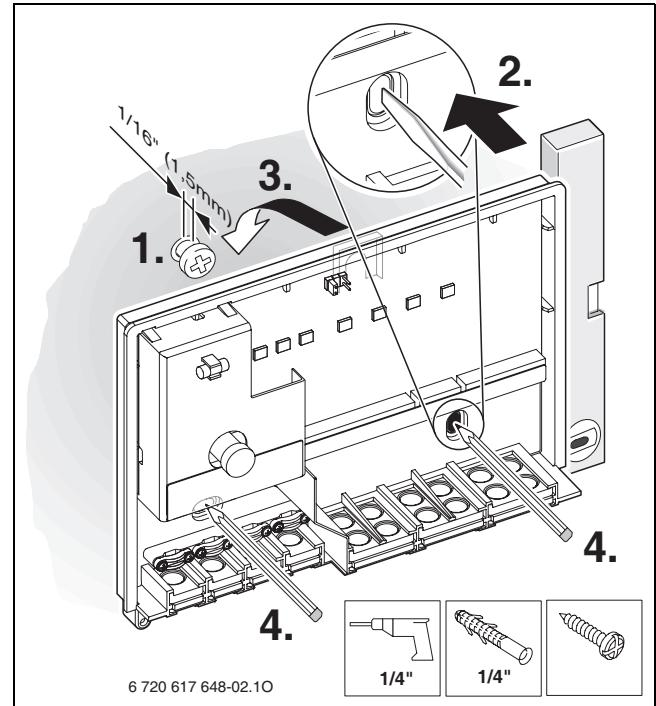

Fig. 8 Upper attachment screw
- ▶ For the upper attachment screw, drill a Ø 1/4" (6 mm) hole, insert an appropriate wall anchor, and insert the screw until only 1/16" (1.5 mm) protrudes (→ fig. 8).